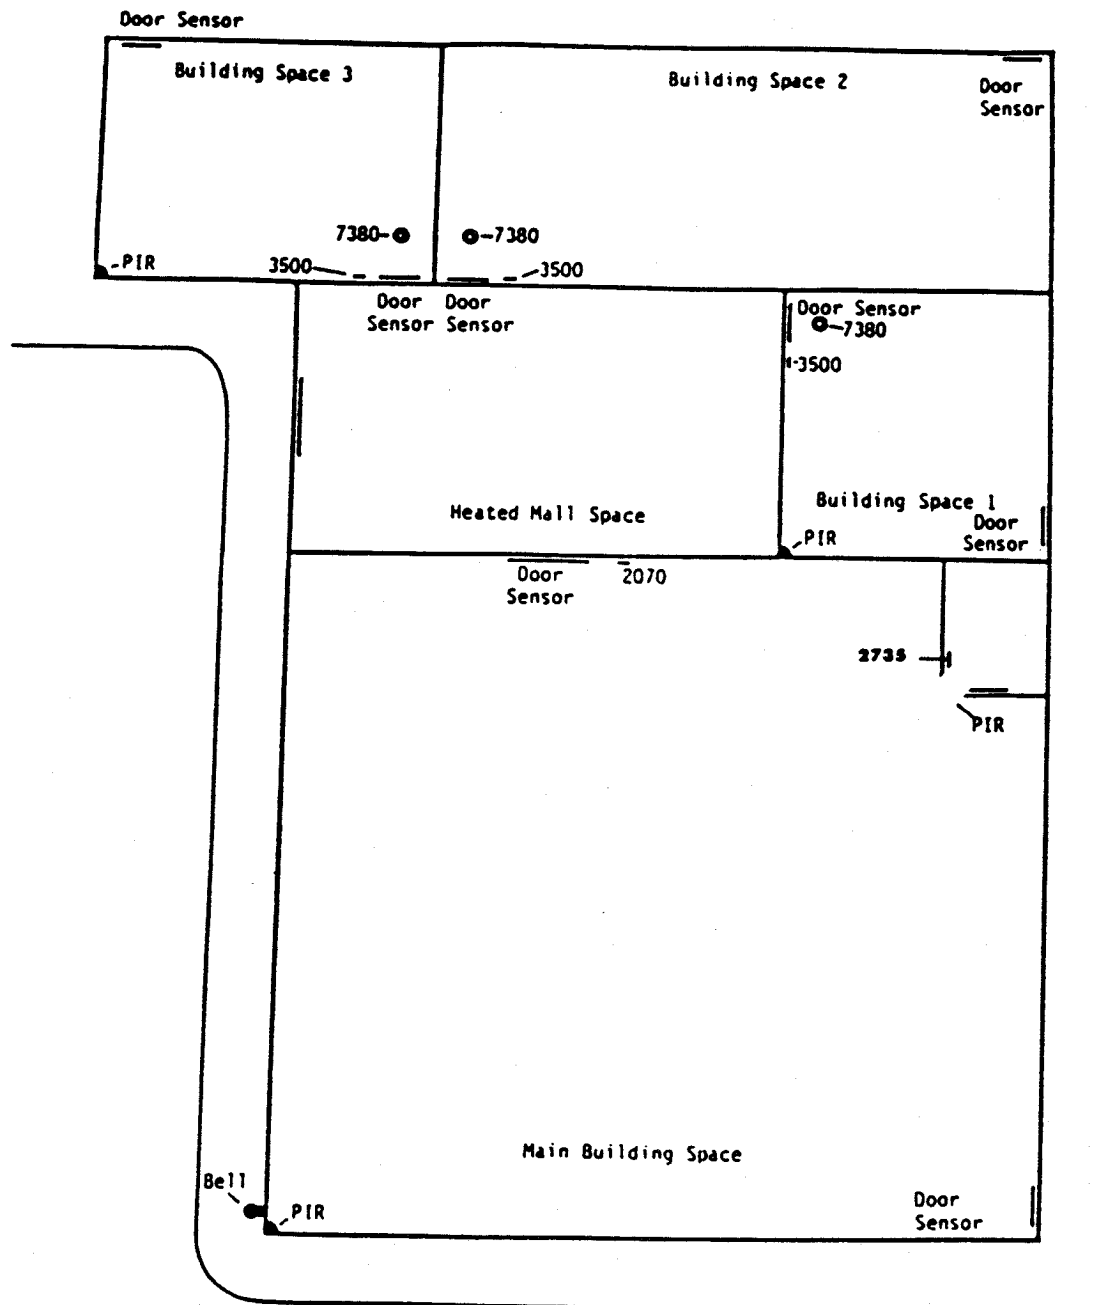

FIGURE 16
security to one or more individual building spaces while using the Model 2735 as the single communicator for all building spaces. See Figure 16.
Figure 16 is the shopping mall application that the (3) 3500 units are used in as an example. Also in this application, a Model 2067 keystation is used to control security for the main building space.